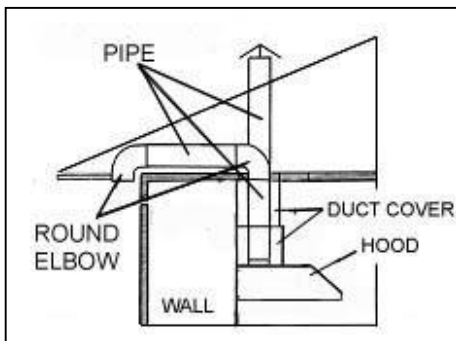

Figure 13
- Decide the location of the venting pipe from the hood to the outside. Refer to Figure 13.